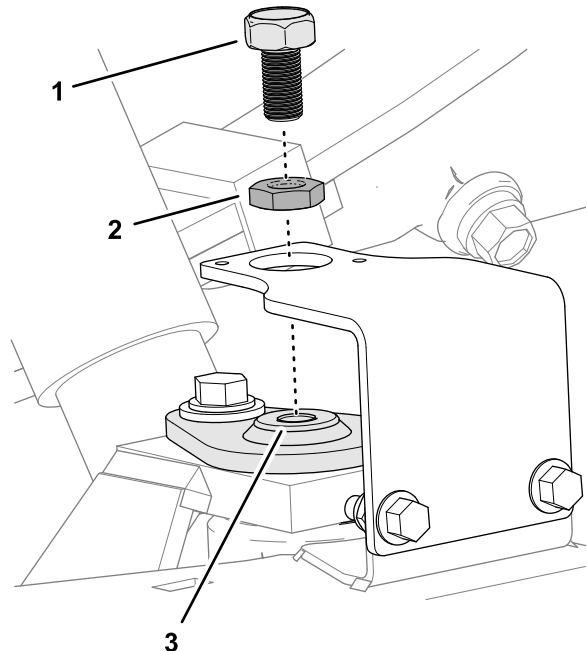

Figure 9
1. Fully thread the jam nut onto the magnetic target (Figure 9).
2. Thread the magnetic target into the top of the king pin (Figure 9).